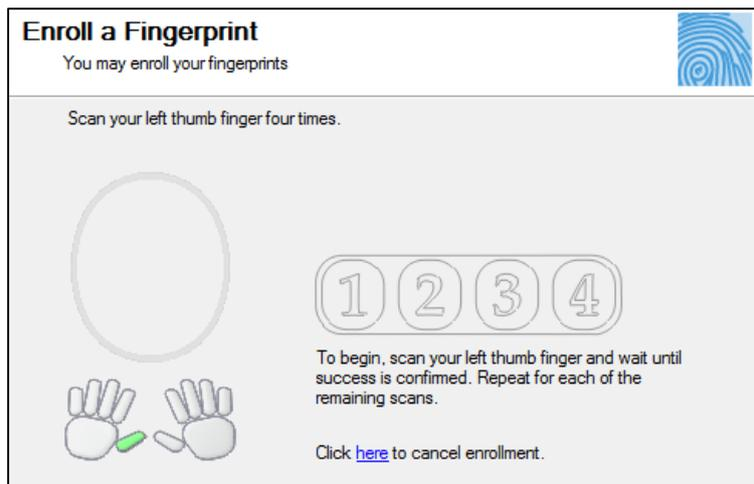

Figure 3
4. Press your finger against the sensor to enroll your fingerprint until the fingertip is recognized and accepted. You will need to swipe your fingertip 4 times to register the fingerprint with the system. After each successful scan, screen will appear as shown in **Figure 3**.